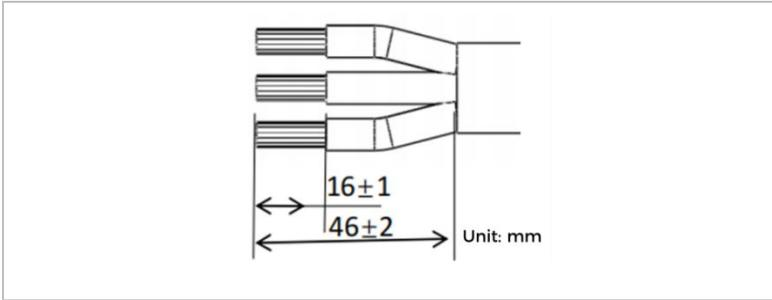

Figure 4-18 Wire stripping size
1. If the DC switch is in the “ON” position, please rotate it 90° counterclockwise to set it to the “OFF” position, as shown in figure 4-18①
2. When the DC switch is in the “OFF” position, press the switch until the small hole on the left side of the switch is fully exposed, as shown in figure 4-18②.
3. Insert a round pin with a diameter of 5 mm and a length of at least 25 mm (self-supplied) into the hole, as shown in figure 4-18③. The switch is now locked, as shown in figure 4-18④.